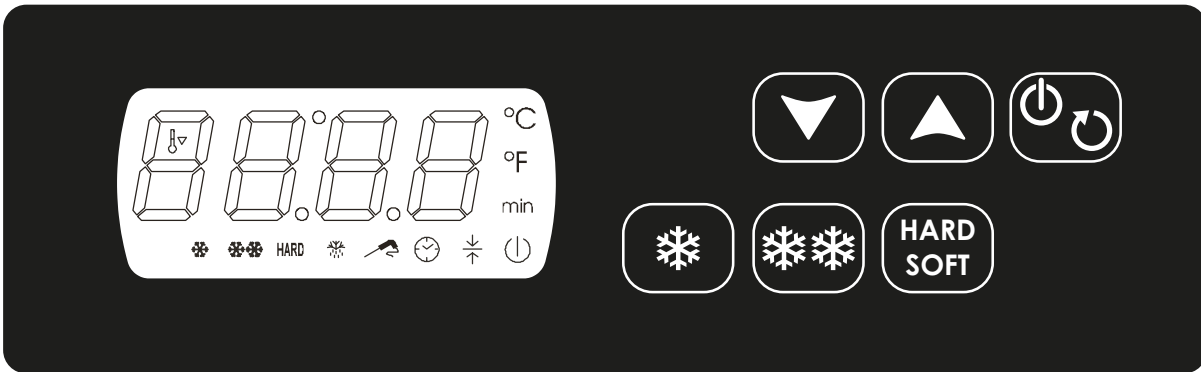

Fig.3
9.1 Description of the controls and of the keys (Fig. 3)